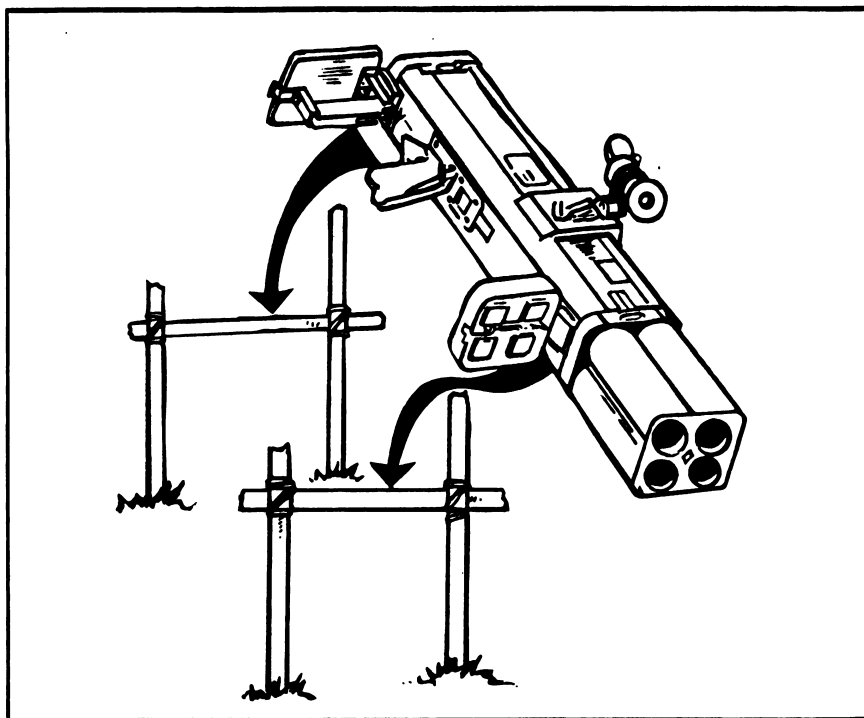

Figure 1
- b. Add the left front and the crossmember. Crossmember must be at the proper height (fig. 1).